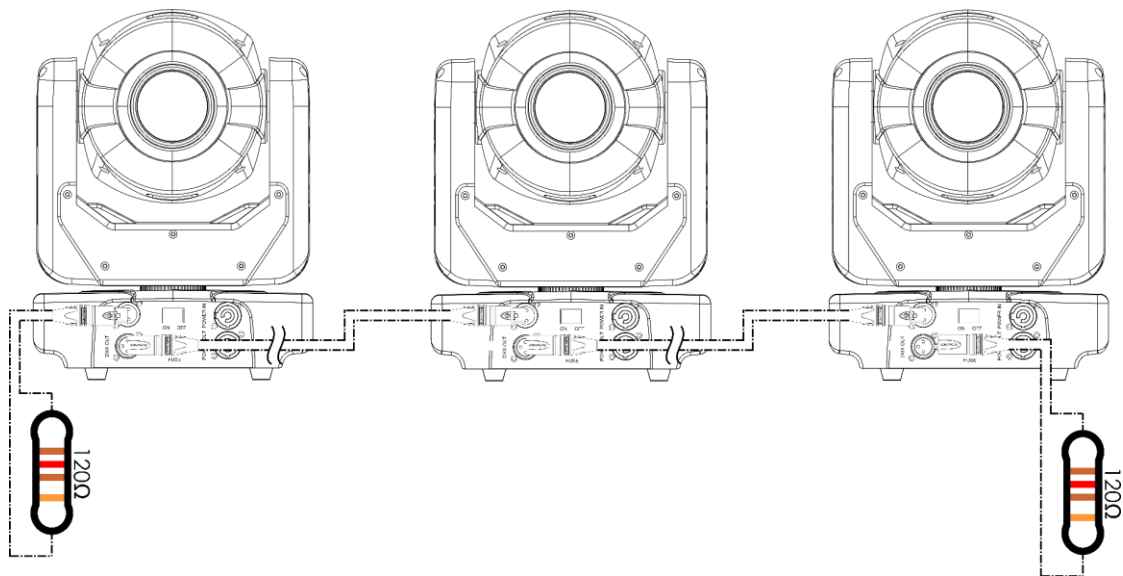

Fig. 12
- 02) Repeat step 1 to connect all devices as shown in Fig. 12.